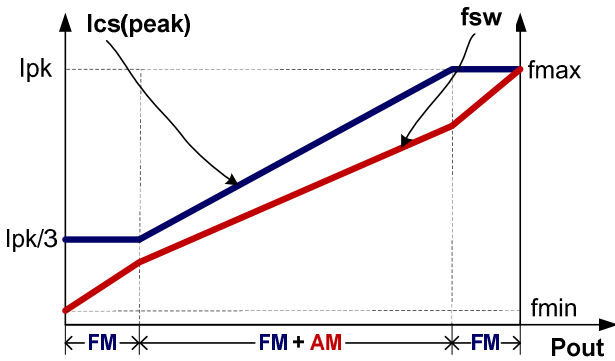

Fig.4
To meet the tight requirement of averaged system efficiency and no load power consumption, a hybrid of frequency modulation (FM) and amplitude modulation (AM) is adopted in DP2525JA which is shown in the Fig 4.